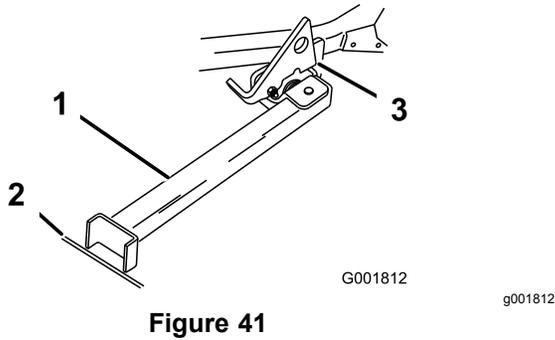

**Figure 40**
2. Remove the bracket pin (Figure 40).
- Swing the stand foot out front and slide it toward machine, into the bottom of slot (Figure 40 and Figure 41).
- Return the stand to its rest position (Figure 40).